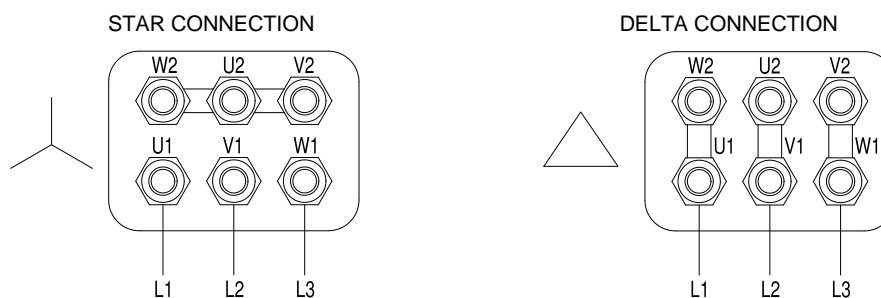

Fig.8 – Electrical connection
- check the star/delta connection of the wires to the motor terminals (see **Fig.8**)